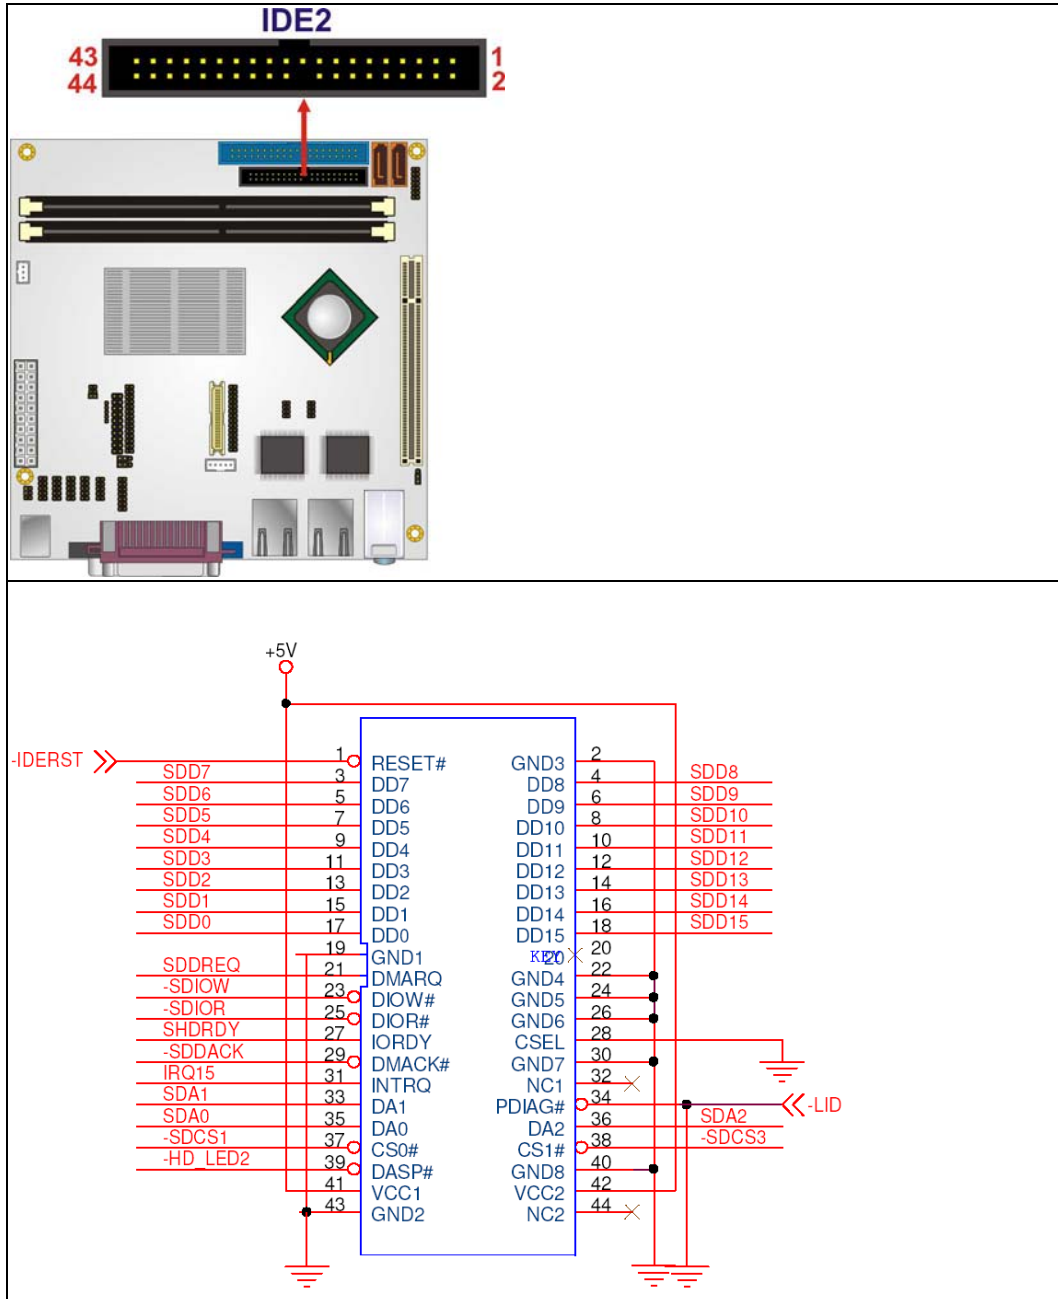

Figure 4-8: Secondary IDE Device Connector Locations
**CN Location:** See Figure 4-8